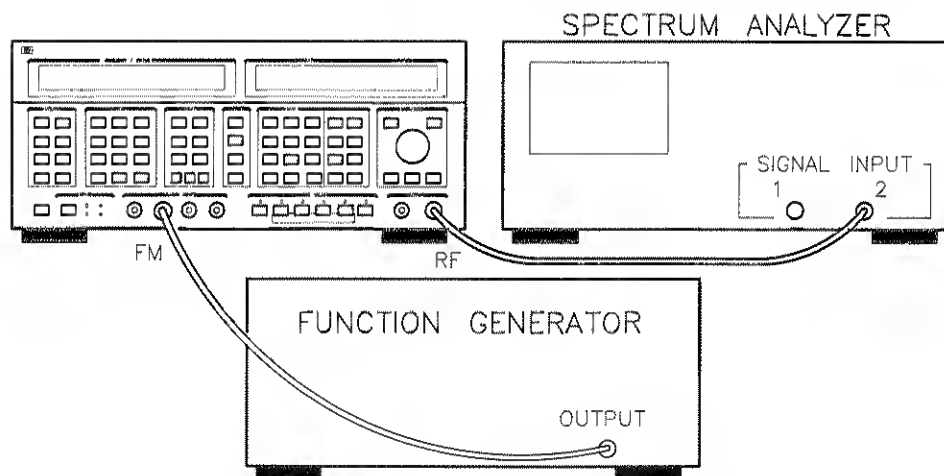

Figure 2-4. Equipment Setup for FM Procedure #2.
1. Connect the Signal Generator to the spectrum analyzer and function generator as shown in figure 2-4. Turn on the equipment and make the following adjustments: